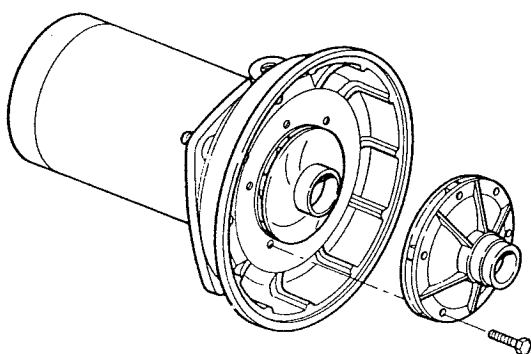

Figure 21—Remove Diffuser
1. Remove four screws fastening diffuser to seal plate; remove diffuser (see Figure 21). Exposed impeller can now be cleaned.